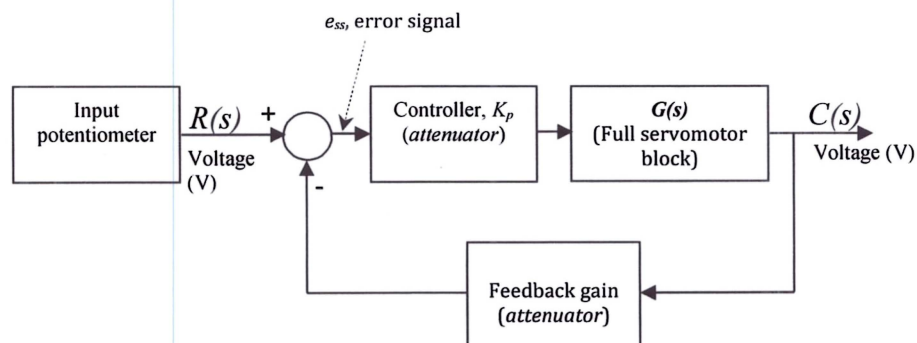

Figure D.1: Closed loop DC motor Speed control
1. Connect the equipment to give the equivalent block diagram as shown in Figure D.1, with no load attached.